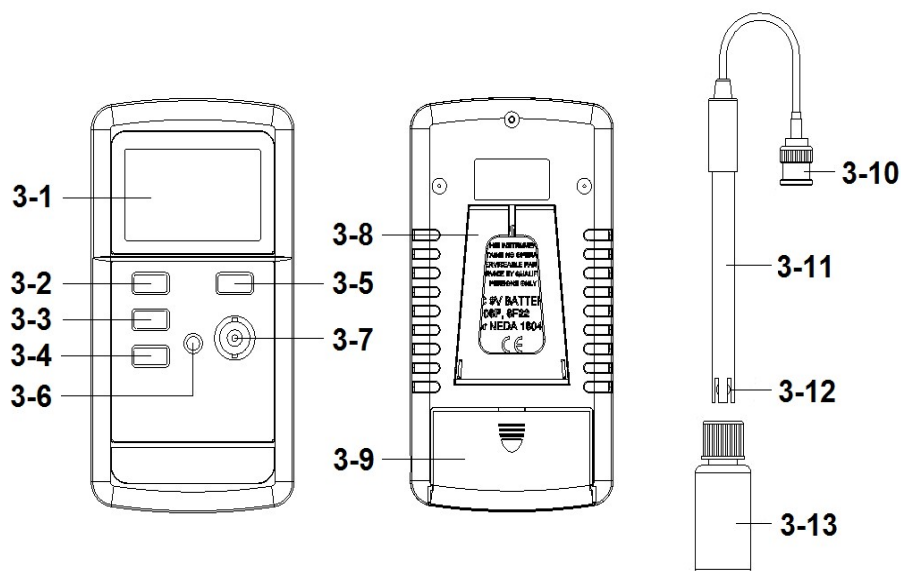

Fig. 1
- 1) Prepare the pH Electrode ( optional ), install the " Probe Plug " ( 3-10, Fig. 1 ) into the " pH Socket/BNC Socket " ( 3-7, Fig. 1 ).
- 2) Power on the meter by pressing " Power button " ( 3-2, Fig. 1 ) once.
- 4) Hold the " Electrode Handle " ( 3-11, Fig. 1 ) by hand and let the " Sensing head " ( 3-12, Fig. 1 ) immersed wholly into the measured solution and little shake the probe.
but should prepare one temperature probe ( optional, TP-07 ). Insert the TP-07's plug into the " Temp. probe socket " ( 3-6, Fig. 1 ), immerse the sensing head of temperature probe into the measurement solution.
**When not use the Electrode, it should immerse the " Electrode sensing head " ( 3-12, Fig. 1 ) into the " Protection bottle " ( 3-15, Fig. 1 ).**
- 1) Prepare the ORP Electrode ( optional, ORP-14 ), install the " Probe Plug " of ORP electrode into the " BNC socket " ( 3-7, Fig. 1 ).
**Pressing the " FUNC button " ( 3-5, Fig. 1 ) once , the display show " mV " indicator and the temperature value will be disappeared.**
*\* After the mV measurement, if pressing the " FUNC button " ( 3-5, Fig. 1 ) once again will return to the pH measurement function.*
- 2) Power on the meter by pressing " Power Button " ( 3-2, Fig. 1 ) once.
- 4) Hold the " Electrode Handle " ( 3-11, Fig. 1 ) by hand and let the " Sensing head " ( 3-12, Fig. 1 ) immersed wholly into the measured standard solution ( pH 7.0, pH 4.0 or pH 10.0 ) and little shake the probe. Display will show the pH value of the solution.
- 5) Use the two fingers to press the " REC button " ( 3-4, Fig 1 ) and " Hold button " ( 3-3, Fig. 1 ) at the same time, until Display will show the following screen
- 6) Press the " HOLD button " ( 3-3, Fig. 1 ) once in sequence to select the following screen.
Press the " Enter Button " ( 3-4, Fig. 1 ), the upper Display will be flashing several seconds, then save the calibration data and finish the calibration procedures.
- \* **If select the d screen, press the " Enter button " ( 3-4, Fig. 1 ) will clear existing calibration data.**
- \* During execute the calibration procedures, press the " ESC button ( 3-3 Fig 1)" will exit the calibration procedures and return to normal measuring screen.
During the measurement, press the " Hold Button " ( 3-3, Fig. 1 ) once will hold the measured value & the LCD will display a " HOLD " symbol.
- \* The data record function records the maximum and minimum readings. Press the " REC Button " ( 3-4, Fig. 1 ) once to start the Data Record function and there will be a " REC " symbol on the display.
- a) Press the " REC Button " ( 3-4, Fig. 1 ) once, the " REC MAX " symbol along with the maximum value will appear on the display.
- b) Press the " REC button " ( 3-4, Fig. 1 ) again, the " REC MIN " symbol along with the minimum value will appear on the display.